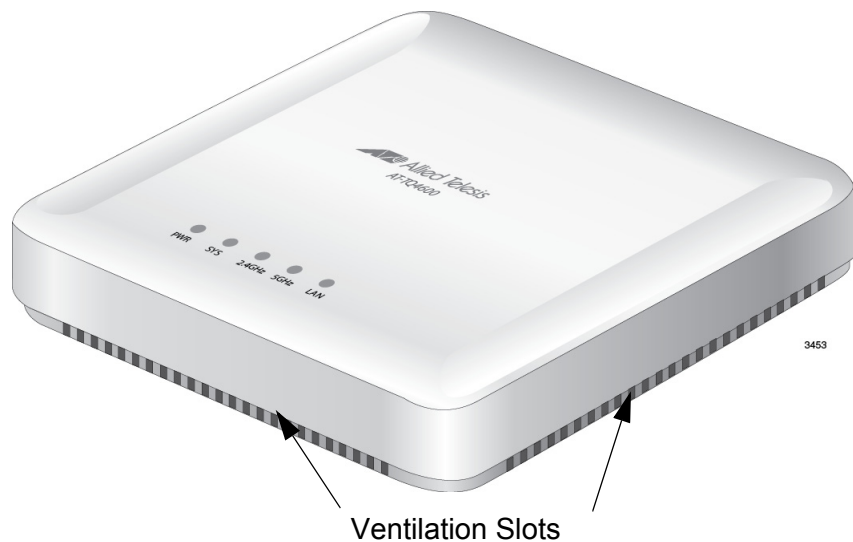

Figure 8. Ventilation Slots
- ❑ The selected location must not block the ventilation slots around the base of the unit. Refer to Figure 8.